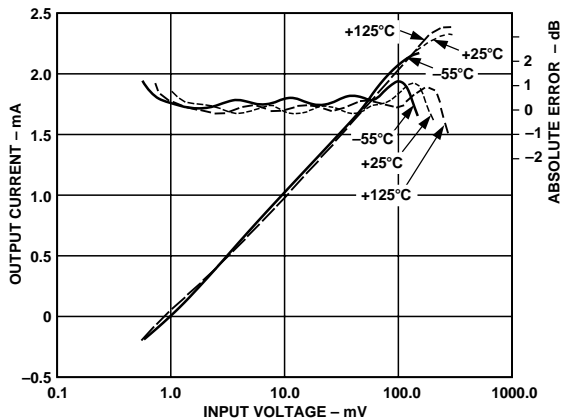
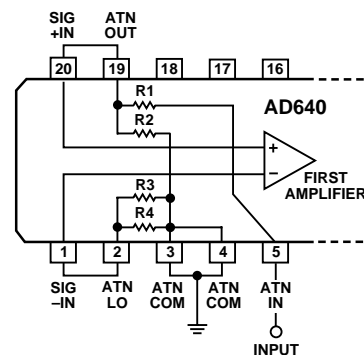
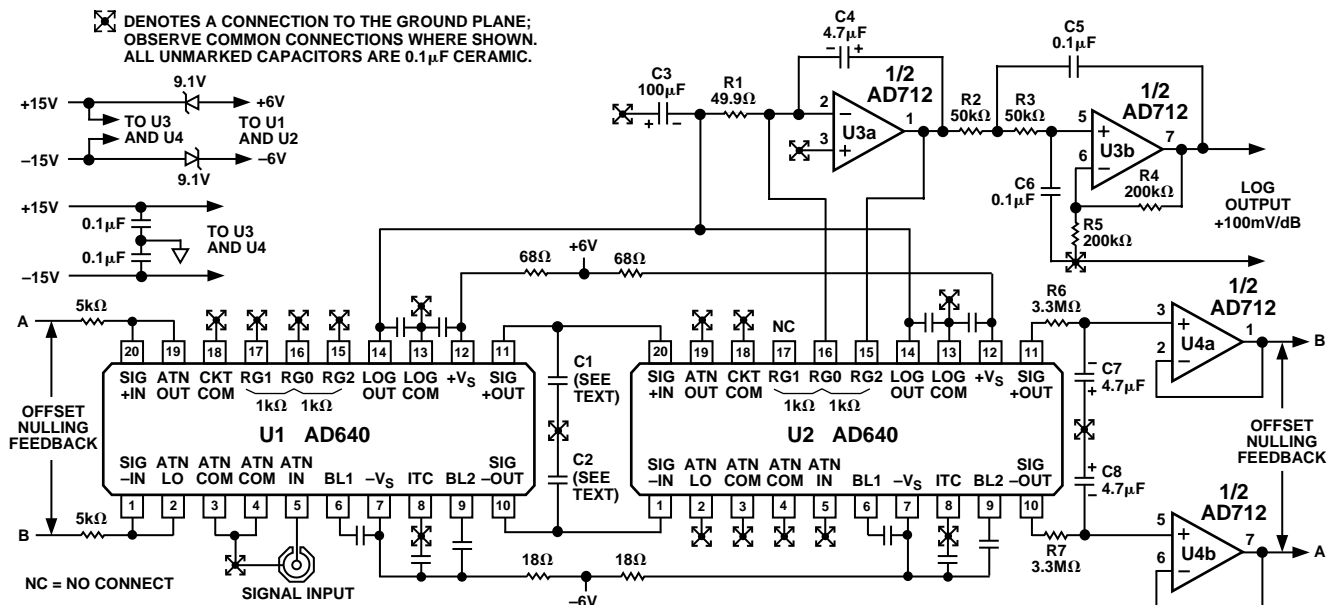

Figure 18. Logarithmic Output and Absolute Error vs. DC or Square Wave Input at $T_A = -55^\circ\text{C}$, $+25^\circ\text{C}$, Input Direct to Pins 1 and 20
Figure 26. Details of the Input Attenuator
Figure 32. Complete 95 dB Dynamic Range Converter
The logarithmic function of the AD640 is absolutely calibrated to within ± 0.3 dB (or ± 15 μA) for 2 kHz square-wave inputs of ± 1 mV to ± 100 mV, and to within ± 1 dB between ± 750 μV and ± 200 mV. Figure 18 is a typical plot of the dc transfer function, showing the outputs at temperatures of -55°C , $+25^\circ\text{C}$ and $+125^\circ\text{C}$. While the slope and intercept are seen to be little affected by temperature, there is a lateral shift in the endpoints of the “linear” region of the transfer function, which reduces the effective dynamic range. The cause of this shift is explained in Fundamentals of Logarithmic Conversion section.
In applications where the signal amplitude is sufficient, the on-chip attenuator should be used because it provides a temperature independent dynamic range (compare Figures 18 and 19). Figure 26 shows this attenuator in more detail. R1 is a thin-film resistor of nominally 270 Ω and low temperature coefficient (TC). It is trimmed to calibrate the intercept to 10 mV dc (or -24 dBm for sinusoidal inputs), that is, to an attenuation of nominally 20 dBs at 27°C. R2 has a nominal value of 30 Ω and has a high positive TC, such that the overall attenuation factor is 0.33%/°C at 27°C. This results in a transmission factor that is proportional to absolute temperature, or PTAT. (See Intercept Stabilization for further explanation.) To improve the accuracy of the attenuator, the ATN COM nodes are bonded to both Pin 3 and Pin 4. These should be connected directly to the “SIG-NAL LOW” of the source (for example, to the grounded side of the signal connector, as shown in Figure 32) not to an arbitrary point on the ground plane.
A low-pass filter between U1 and U2 can limit the noise bandwidth and extend the dynamic range. The simplest way to do this is by the addition of a pair of grounded capacitors at the signal outputs of U1 (shown as C1 and C2 in Figure 32). The
To increase the dynamic range it is necessary to reduce the bandwidth by the inclusion of a low-pass filter at the signal interface between U1 and U2 (Figure 32). To provide operation down to low frequencies, dc coupling is used at the interface between AD640s and the input offset is nulled by a feedback circuit.